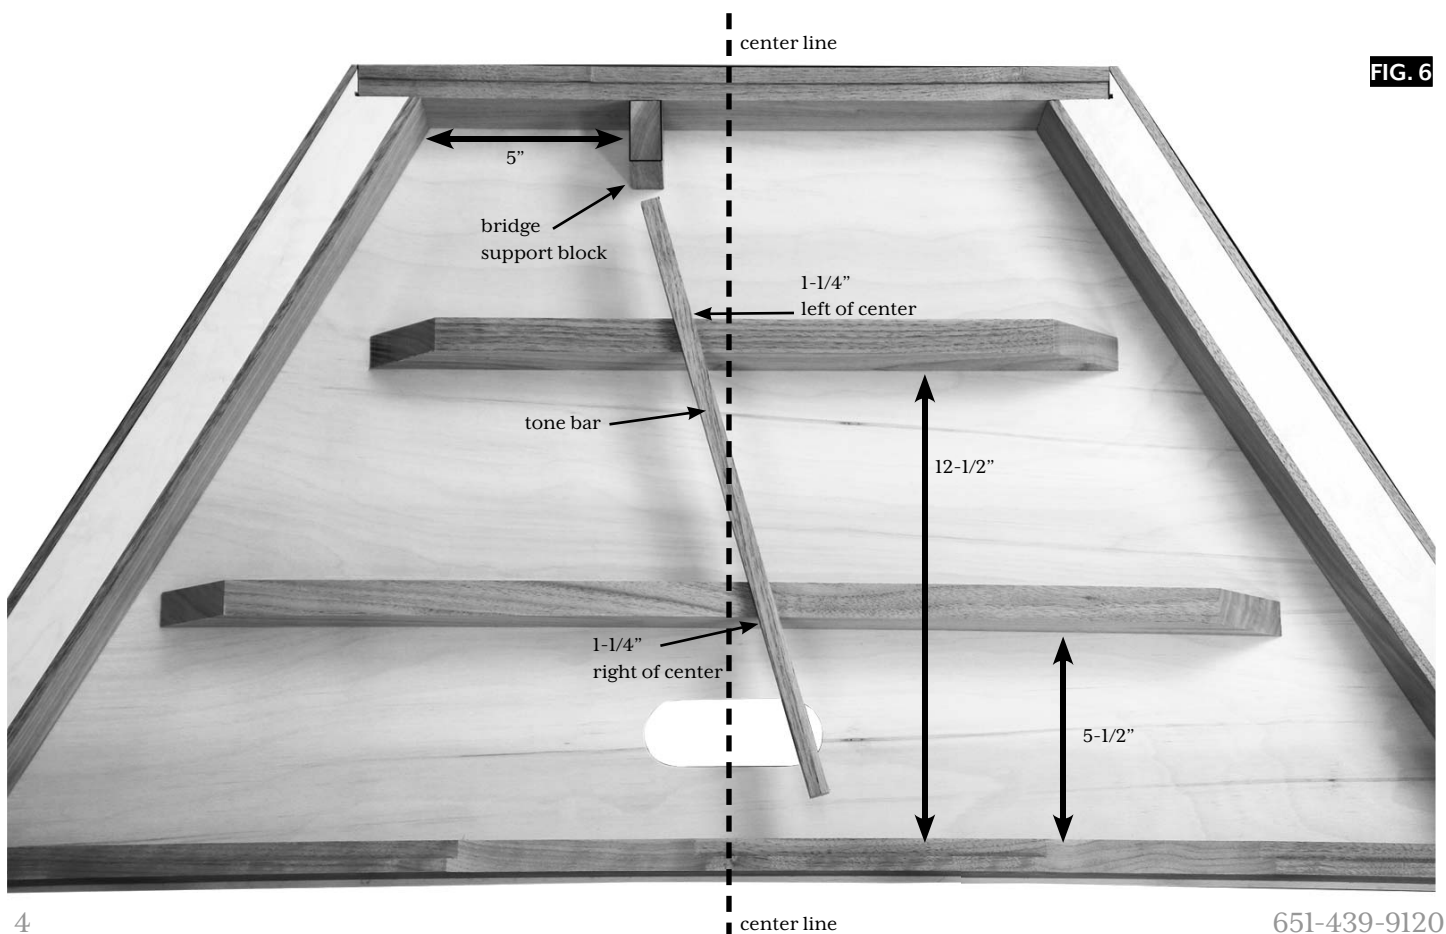

FIG. 6
- \_\_\_6. The two INNER BRACES are cut with a slope at each end. The function of these braces is simply to support the TONE BAR, which, in turn, supports the middle of the SOUNDBOARD. These BRACES do not need to touch the PINBLOCKS. Measure the distances (shown in fig. 6) from the long FRONT RAIL to determine the proper placement, then glue them to the BACK, using heavy weights and/or clamps until dry.
- \_\_\_7. When the INNER BRACES are dry, position the TONE BAR on top of them. Orient it at an angle to the centerline of the instrument. (fig. 6) The TONE BAR should overhang the two BRACES equally. Mark its position on the BRACES so you can glue it down accurately with weights or clamps holding it until dry
- \_\_\_9. Glue the BRIDGE SUPPORT BLOCK to the BACK and the REAR RAIL, 5" from the inside left corner so it stands the same height as the PINBLOCKS. (fig. 6)